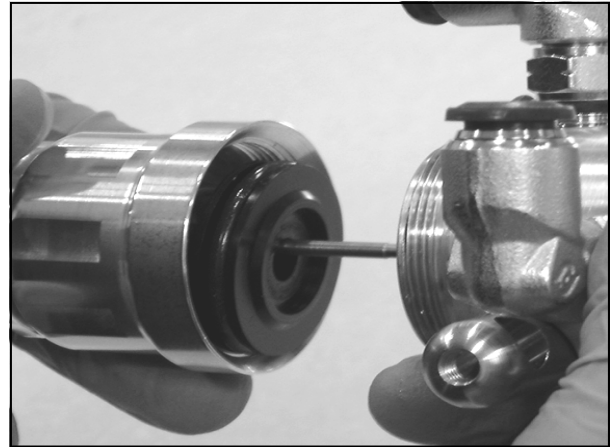

Figure 14
4. Unscrew the trigger housing and fully remove it, along with the fluid needle and trigger piston from the main spray gun body (See Figure 14).